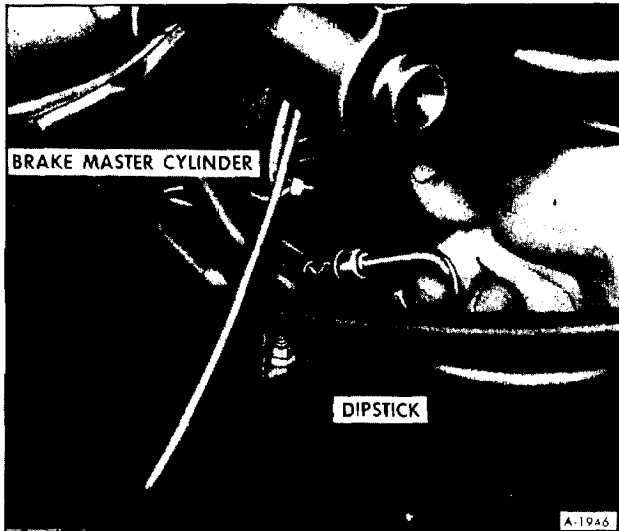
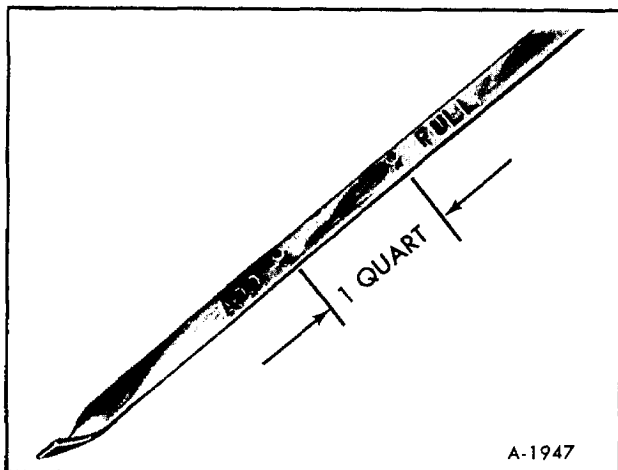

Figure 12-Removing Engine Oil Dipstick
Figure 13-Engine Oil Dipstick
The engine oil should be maintained at the proper level. The best time to check it is before operating the engine or as the last step in a fuel stop. This will allow the normal oil accumulation in the engine to drain back into the crankcase. To check the level, remove the oil level dipstick located inside the left front access door (See figure 12) wipe it clean and reinsert it fully for accurate reading. The oil level dipstick is marked "FULL" and "ADD." (figure 13) The oil level should be maintained within the margin, neither going above the "FULL" line nor below the "ADD" line. Reseat the dipstick firmly after taking the reading. One (1) quart will raise the oil level from "ADD" to "FULL."